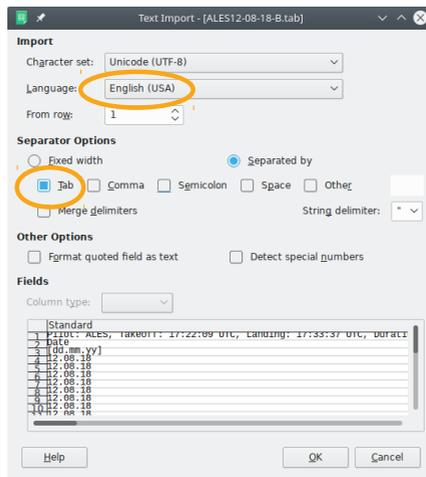

Figure 58: An example of Calc Text Import window.
5. Calc detects that a text file is being imported and it opens a window as shown on Figure 58. Please make sure that the *Tab* option is selected as the separator and *English (USA)* as the language. This makes sure that decimal values are properly imported.